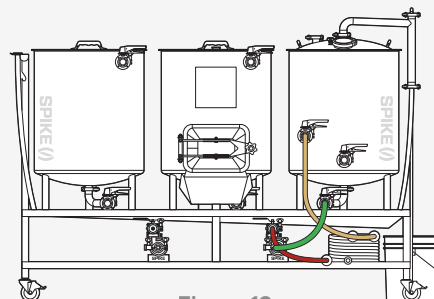

Figure 12
19. Move the hose (Gold) from the BK racking port to the BK whirlpool port.. (see **Figure 12**)